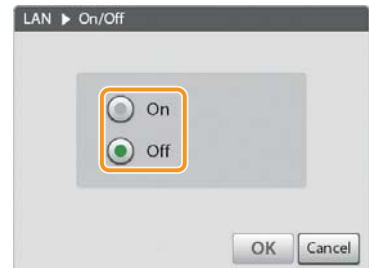

Figure 3-117
2. Select [On] or [Off]. (Figure 3-117)